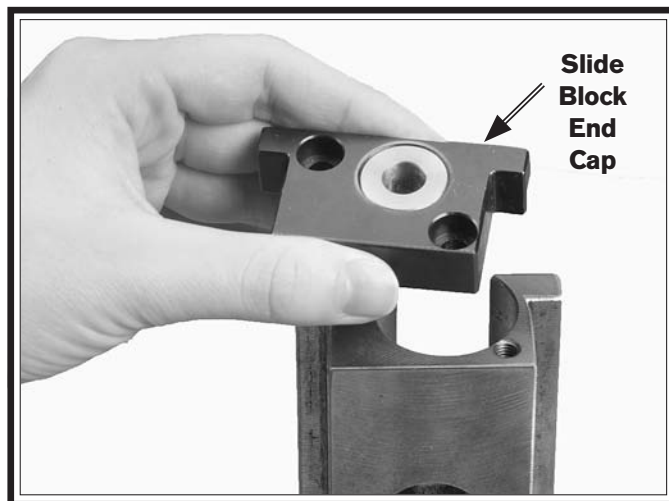

**Figure 8. Slide block copper anti-score plug.**
9. Lift out the slide block without losing the copper anti-score plug (**Figure 8**).